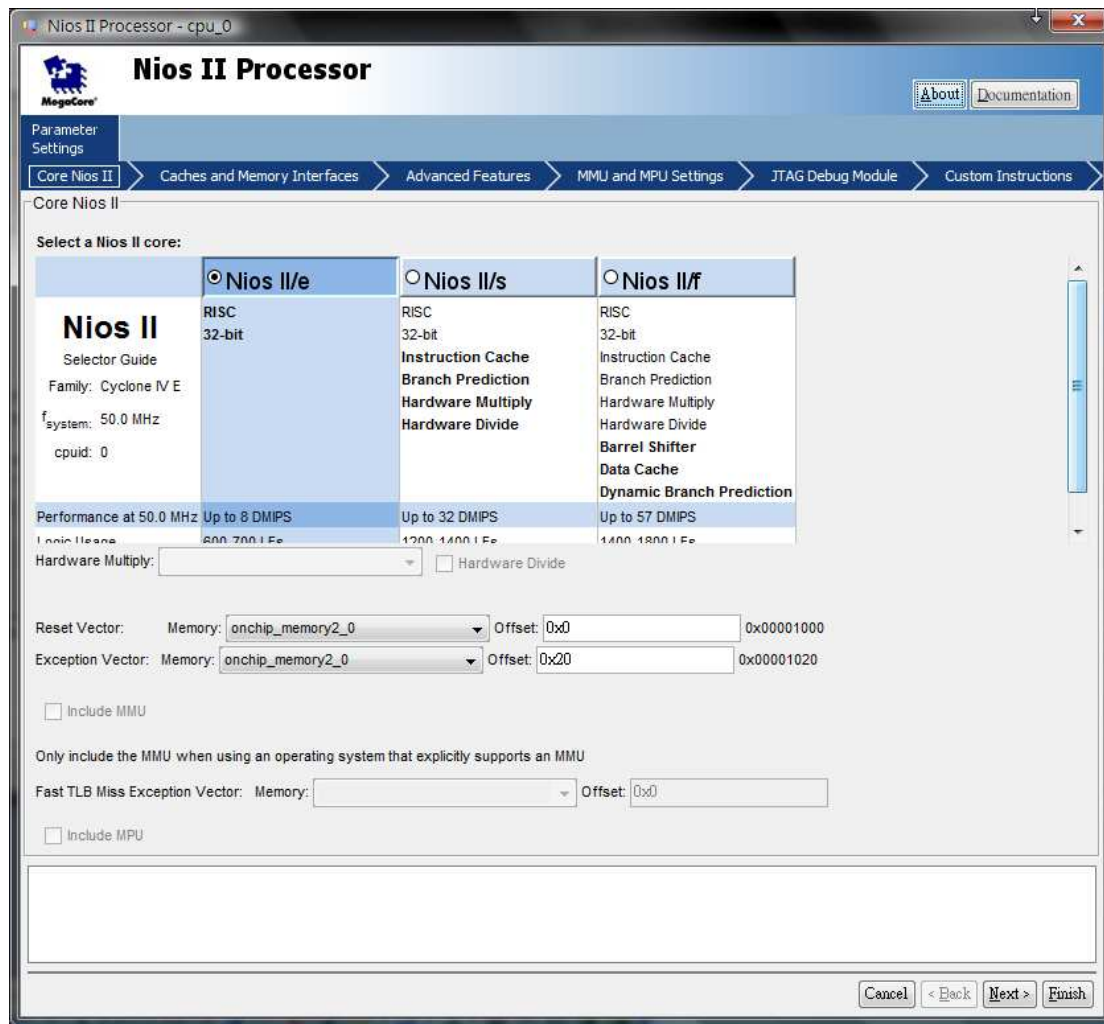

Figure 15. Define the reset vector and exception vector.
- Right-click on the **cpu\_0** and then select **Edit** to reach the window in Figure 15